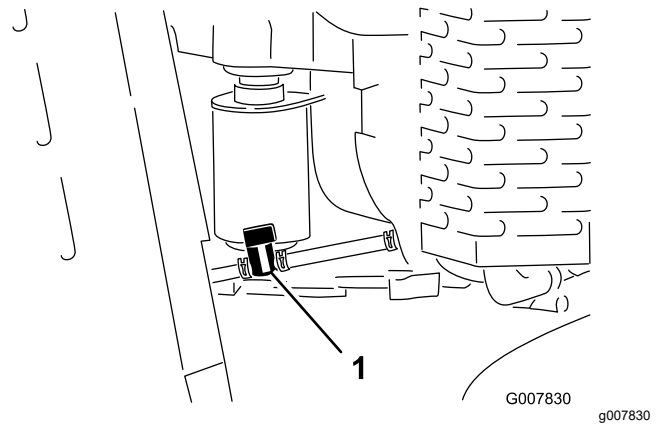

Figure 38
3. Turn the fuel-shutoff valve to the closed position (Figure 38).
4. Squeeze the ends of the hose clamp on the engine side of the valve together and slide it up the fuel line away from the valve (Figure 38).
5. Pull the fuel line off the valve (Figure 38).
3. Turn the fuel shutoff valve to the closed position (Figure 38).
7. Turn the fuel shutoff valve to the open position (Figure 38).